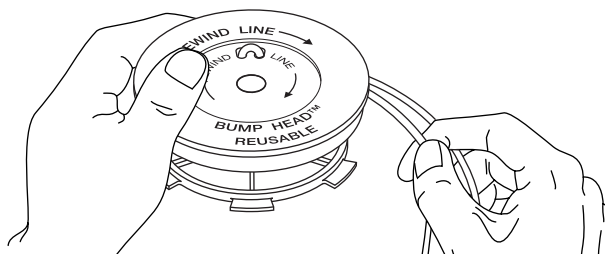

Fig. 17
- Wind the lines in tight even layers, onto the reel (Fig. 17). Wind the line in the direction indicated on the inner reel. Place your index finger between the two lines to stop the lines from overlapping. Do not overlap the ends of the line. Proceed to step 12.